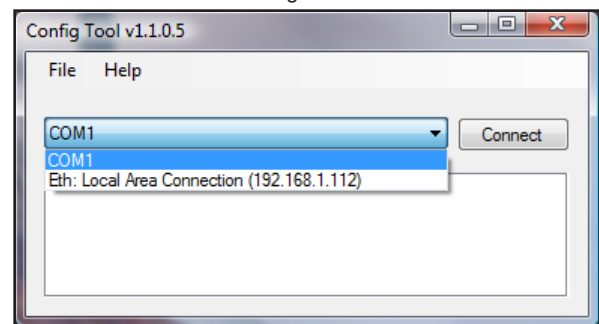

Figure 4
- b. Select RS232 Communications port connected to D-Series System (see figure 4).